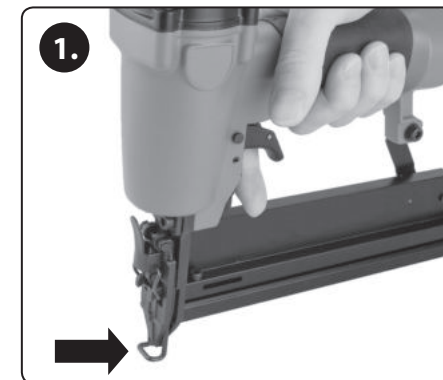

Fig. 5a
1. Place the nail/staple gun with the contact switch against the surface of the workpiece (fig. 5a, step 1).